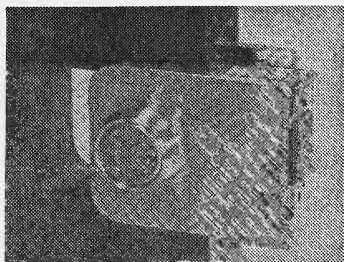

Fig. 18-33.
10. With the lock assembled and the cover in place, slide the unit into the door cutout (Fig. 18-33). Position it so that the longest escutcheon is flush with the high edge of the door bevel.